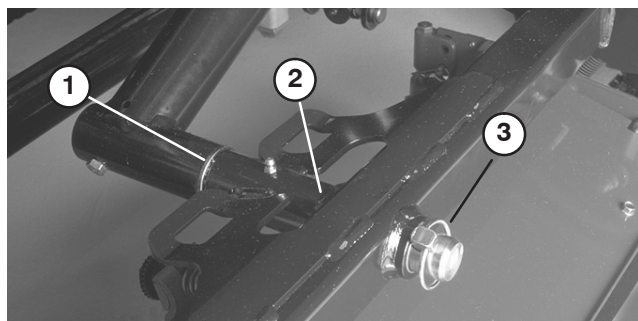

Figure 15
- Slide cutting unit carrier frame onto pivot rod and secure with a lynch pin (Fig. 15).